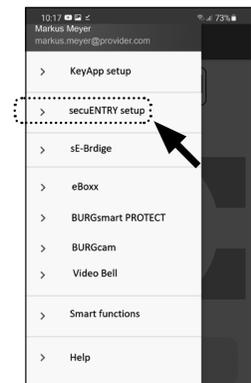

Fig. 28
- ② Tap on the menu item "secuENTRY setup" (Fig. 28).